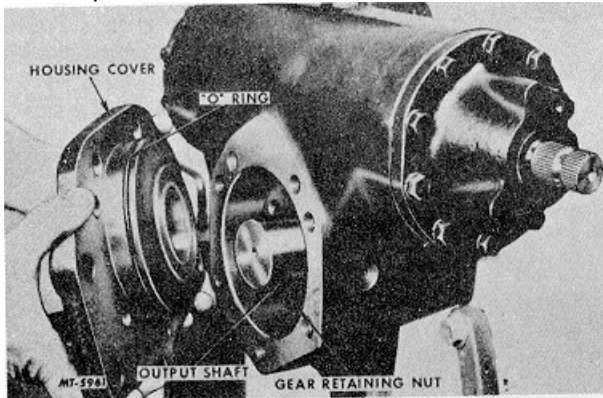

Fig. 8
5. Remove housing cover from steering gear assembly, Fig. 8. Use a soft hammer and tap on end of the output shaft to loosen cover. The output shaft and gear assembly may be removed with the cover. Observe the timing mark on the rack, which is located on the center tooth of the piston. This mark should be in alignment with the timing mark on the pinion gear when reassembly is performed.